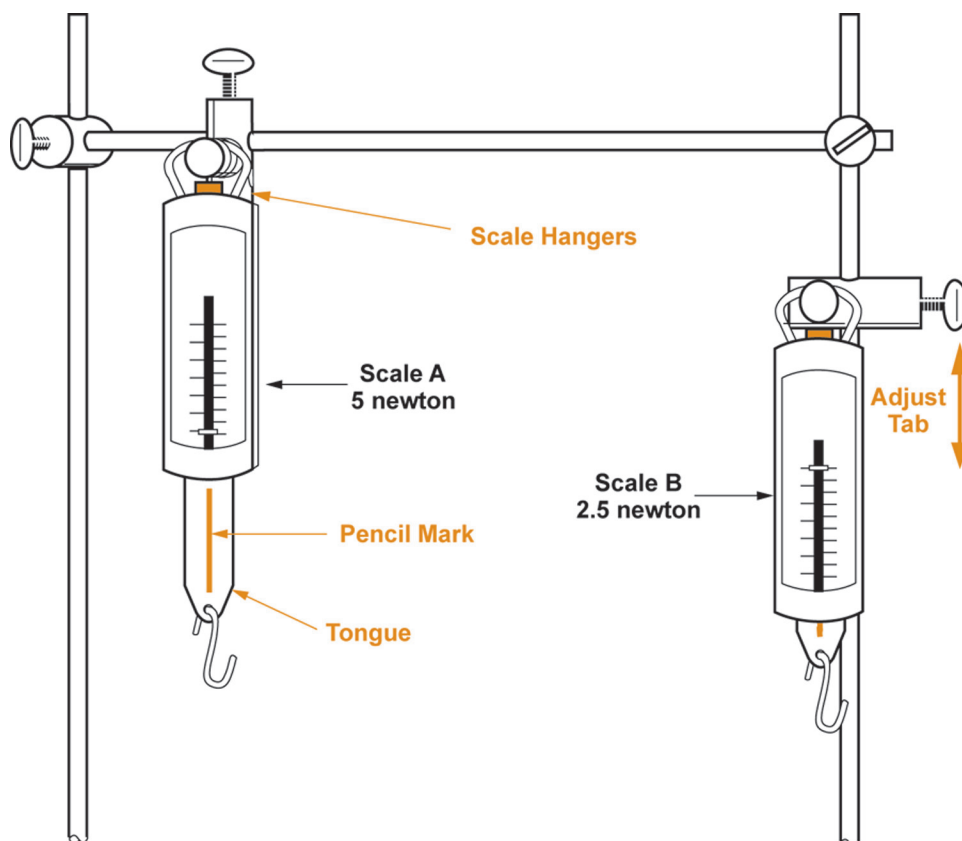

Figure 3
- ❑ 3. Hang the 5 Newton scale from the scale hanger on the crossbar. Hang the 2.5 Newton scale from the scale hanger on the support rod. Fully extend the tongue of the 5 Newton scale. Use a pencil to draw a line down the middle of the tongue. Label the front of this scale A. Repeat for the 2.5 Newton scale and label it scale B. See Figure 3.
- ❑ 4. Adjust both scales by sliding the movable indicator plate up or down. The scales should read zero when hanging vertically. See Figure 3.